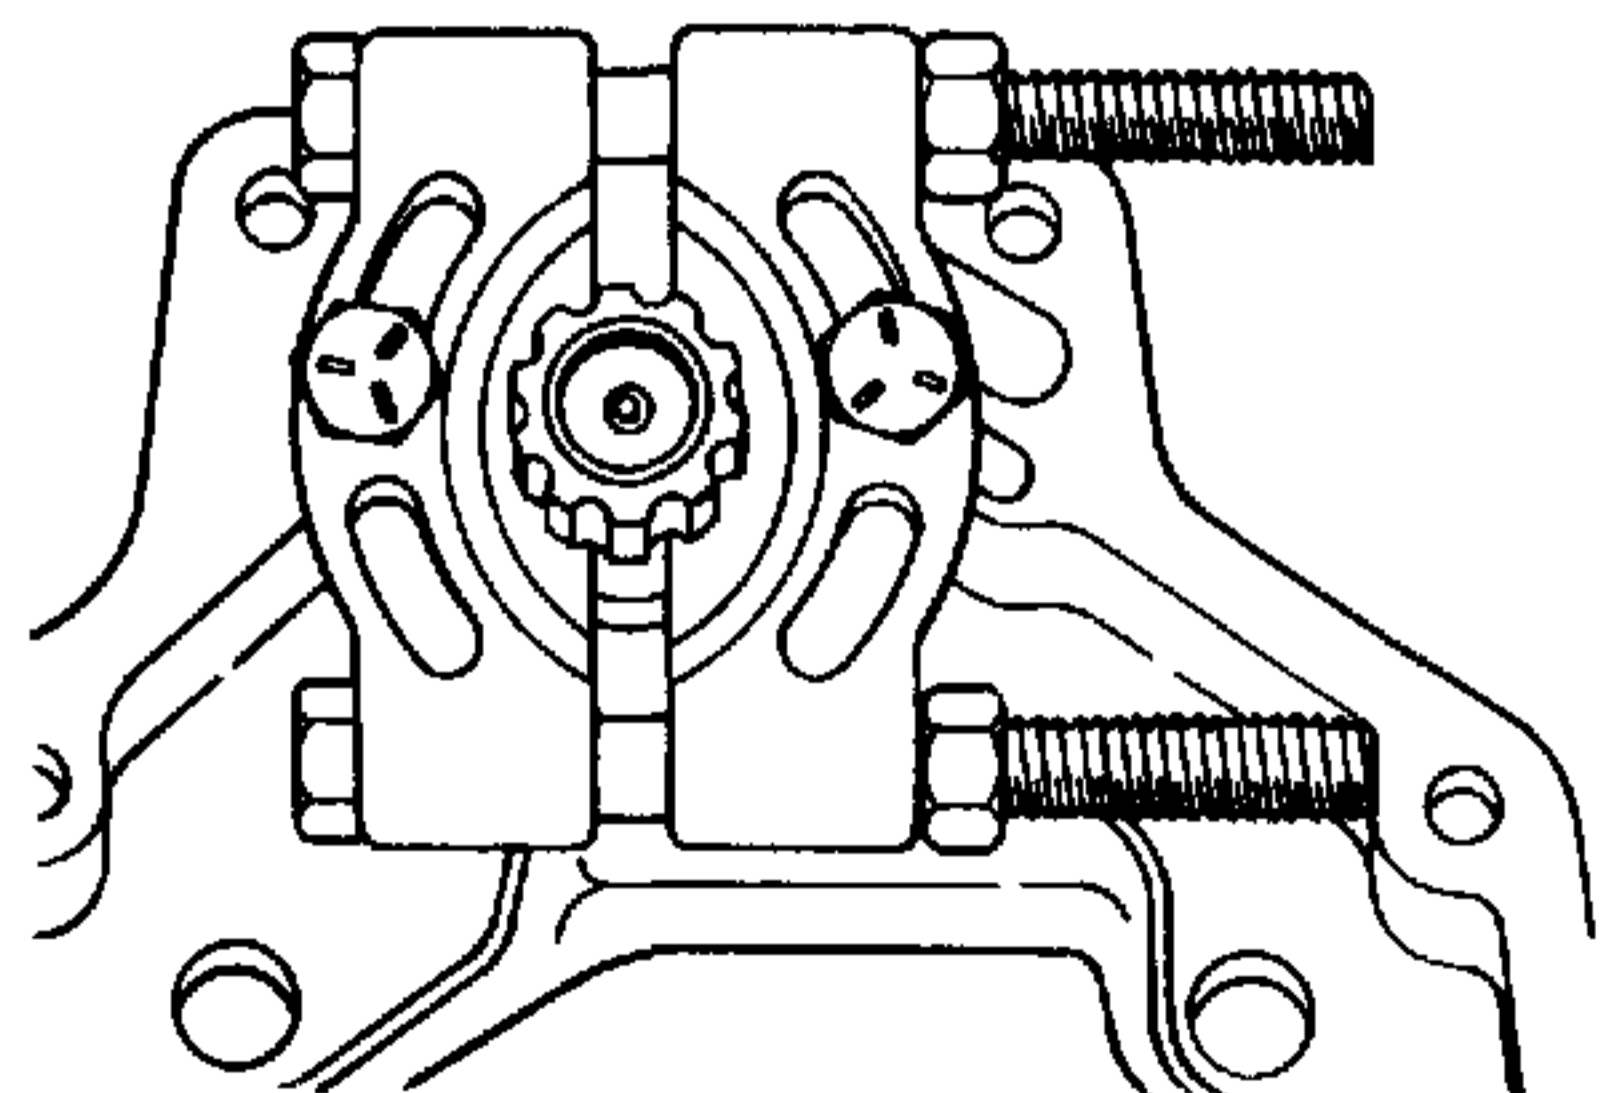

Figure 5-96. Using Splined Coupling and Impact Puller to Remove Input Shaft (Alternative Method).
- a. Install splined coupling and impact puller on input shaft as shown in Figure 5-96.